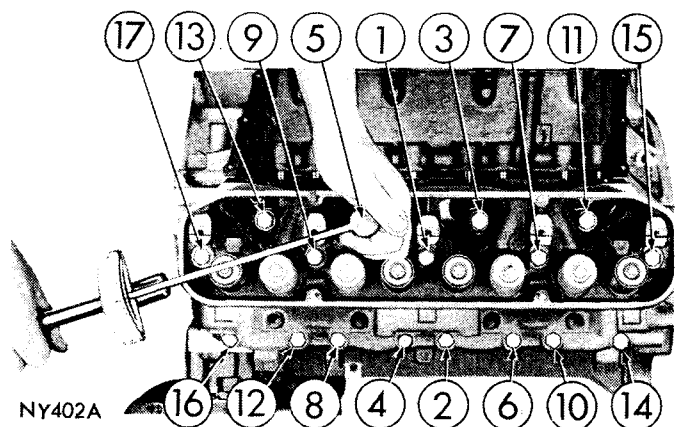
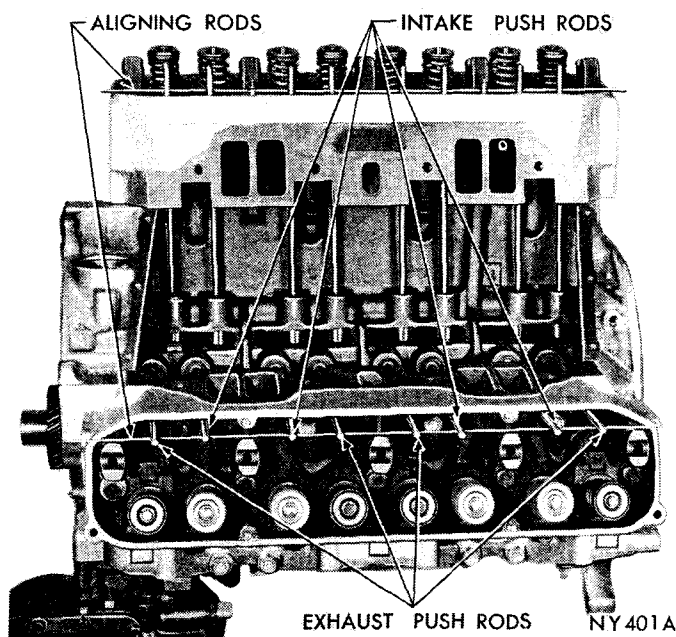

Fig. 4—Cylinder Head Tightening Sequence
Fig. 5—Push Rods Installed
(3) Coat new gaskets with number 1057794 Sealer and install on cylinder block.
(4) Remove cylinder heads from holding fixtures, Tool C-3626 and place heads on cylinder block.
(5) Install cylinder head bolts. Starting at top center, tighten all cylinder head bolts to 50 foot-pounds in sequence, as shown in (Fig. 4).
(6) Repeat the procedure, retightening all cylinder head bolts to 70 foot-pounds. **Do not retighten cylinder head bolts after engine has been operated when embossed steel head gaskets are used.**
(7) Inspect for worn or bent push rods and replace if necessary.
(8) Place aligning rod on cylinder head (Fig. 5). Install push rods in hydraulic tappets.
(9) Install rocker arm and shaft assembly starting each push rod into its respective rocker arm socket making sure to install the long stamped steel retainers in the number two and four positions. Tighten bolts to 25 foot-pounds.
(10) Install cylinder head cover gaskets and covers and tighten to 40 inch-pounds.
(11) Install new exhaust manifold gaskets and exhaust manifolds and tighten bolts to 30 foot-pounds. Be sure center bolt is inserted in same place.
(12) Adjust spark plugs to .035 inch gap.
(13) Install spark plugs and tighten to 30 foot-pounds.
(14) Be sure tappet chamber cover gasket is positioned so the 1/8 inch bleed hole at the crossover is on the right side of the engine. Tighten bolts to 9 foot-pounds.
(15) Install intake manifold and carburetor as an assembly and tighten bolts to 40 foot-pounds.
(16) Install bolts that secure water pump housing to each cylinder head.